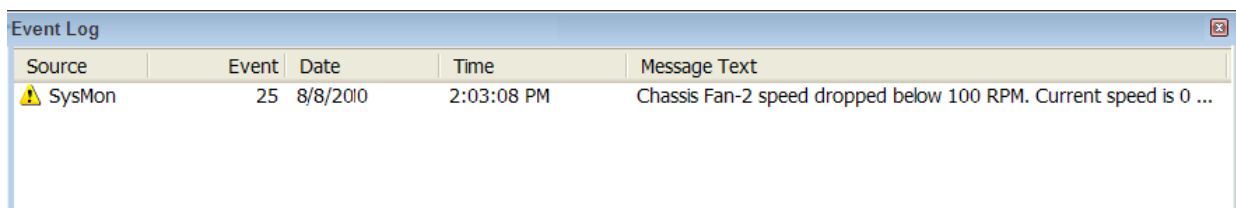

Figure 169 - Event Log Un-Docked
- The Event Log notification (Figure 169) only appears in the **Event Log** panel for the active session. When the Server or Client is stopped and/or restarted, the Event Log notification disappears. However, the Log entries are kept in ControlPoint-specific log files in the following location: